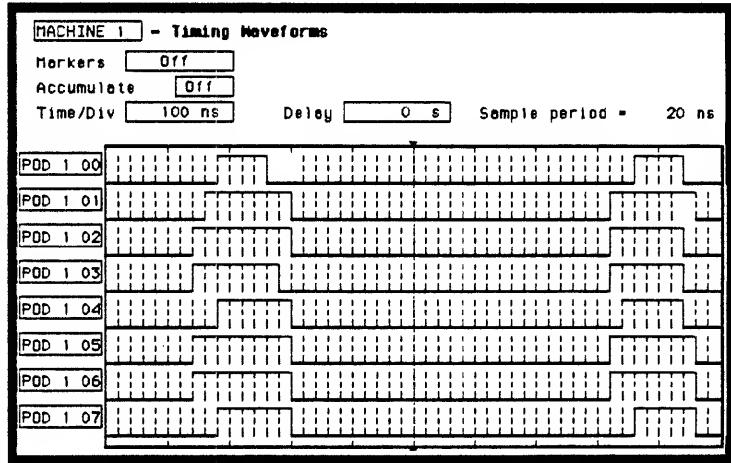

Figure 3-34. Glitch Test Timing Waveforms
6. Press RUN. The timing analyzer acquires data and shows glitches for channels under test as in figure 3-34. SELECT Delay field and rotate knob to assure consistent glitch detection.